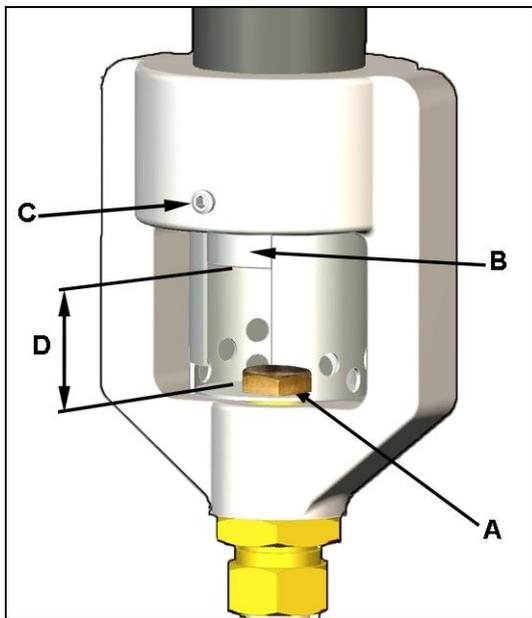

Fig. 9.2
- Loosen the Allen screw (C, Fig. 9.2 and 9.3) and adjust the position of the Venturi body (B).